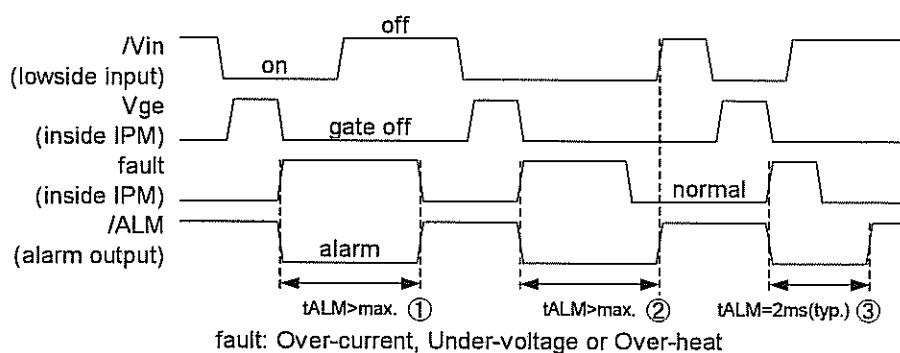

Figure2. Input/Output Timing Diagram.
Necessary conditions for alarm reset (refer to ① to ③ in figure2.)
- ① This represents the case when a failure-causing Fault lasts for a period more than t_{ALM} . The alarm resets when the input Vin is OFF and the Fault has disappeared.
- ② This represents the case when the ON condition of the input Vin lasts for a period more than t_{ALM} . The alarm resets when the Vin turns OFF under no Fault conditions.
- ③ This represents the case when the Fault disappears and the Vin turns OFF within t_{ALM} . The alarm resets after lasting for a period of the specified time t_{ALM} .